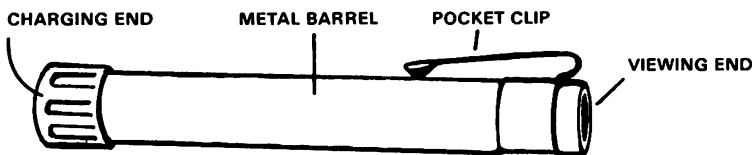

Figure 1.
1. The IM93/UD and IM93A/UD are total-dose pocket dosimeters capable of indicating total exposure to radiation on a scale of 0-600 rads (figure 1). The IM93/UD series dosimeter is designed to be carried like a ballpoint pen, and will allow the soldier to determine the total amount of radiation he has been exposed to over a given period of time. It is normally distributed to a representative number of squad or platoon members, to allow the commander to determine the average radiation exposure within the entire unit.